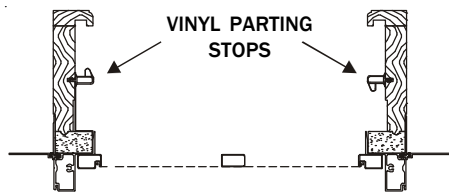

Fig. 2
2. Remove the vinyl parting stops from the side jambs and save them for reuse. Fig. 2.